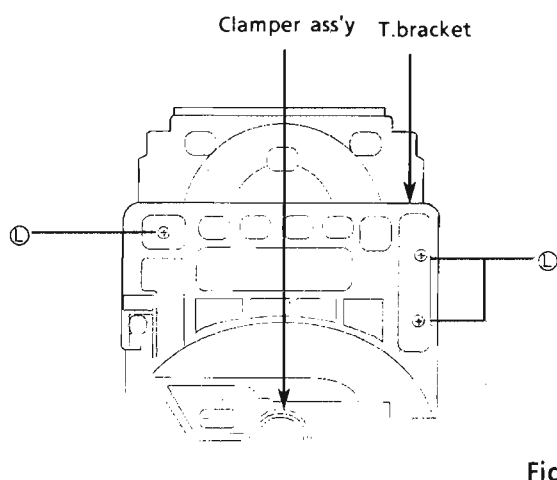

Fig.29
4. Remove 3 screws① securing T.Bracket.(See Fig. 29.)